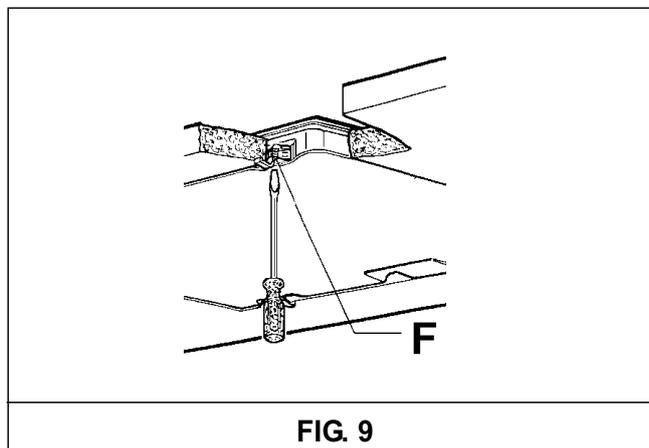

FIG. 9
- Take the protective paper strip of the seal off, place the hotplate in the opening made in the table top, and lock it with the special screws "F" (fig. 9).